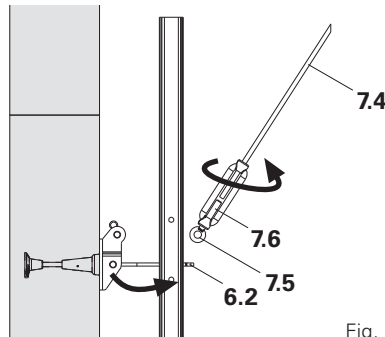

Fig. B1.34c
5. Turn Turnbuckle CB Ø 25-M20L/DW 15 (7.6) on the tie rod (7.4) (Fig. B1.34c). Roughly adjust length by turning the tie rod. Fine adjustment by turning the turnbuckle.